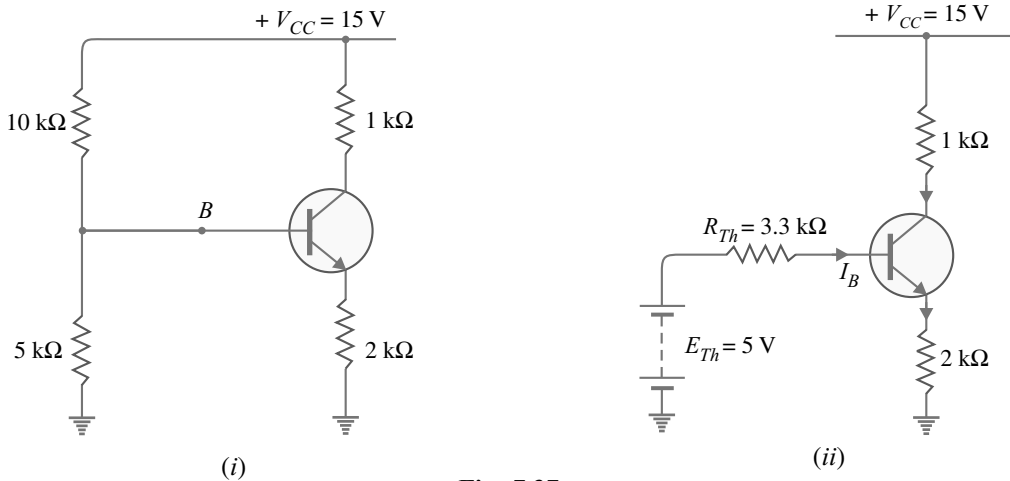

Fig. 7.37
**Example 7.32.** Calculate the exact value of emitter current in the circuit shown in Fig. 7.37 (i). Assume the transistor to be of silicon and  $\beta = 100$ .
**Solution.** In order to obtain accurate value of emitter current  $I_E$ , we shall replace the bias portion of the circuit shown in Fig. 7.37 (i) by its Thevenin's equivalent. Fig. 7.37 (ii) shows the desired circuit.
Applying Kirchhoff's voltage law to the base-emitter loop [See Fig. 7.37 (ii)],